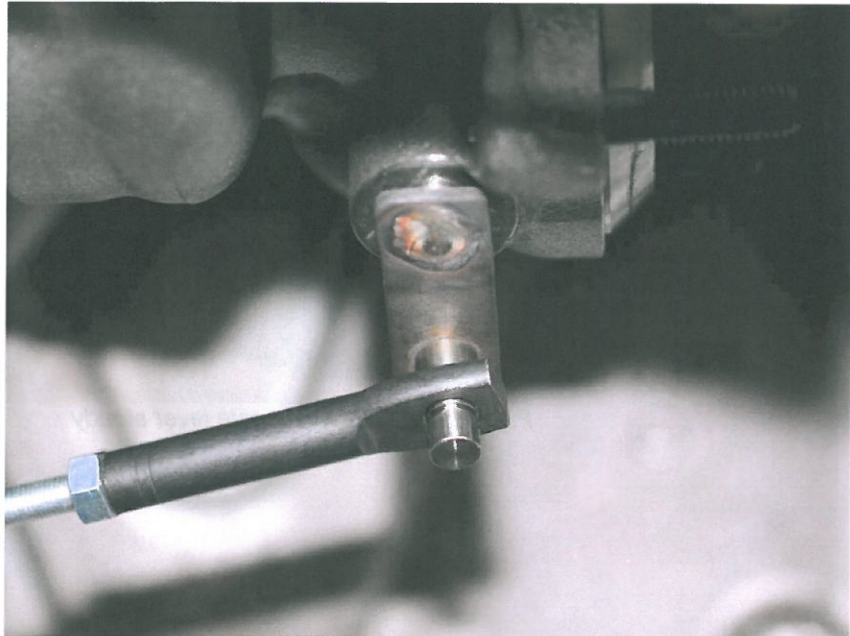

Fig. 1 Adjustment endpiece on the connecting pin of the waste gate lever
3. Remove the split-pin, the plain washer and the retaining ring from the pin of the waste gate lever. See Figure 1.